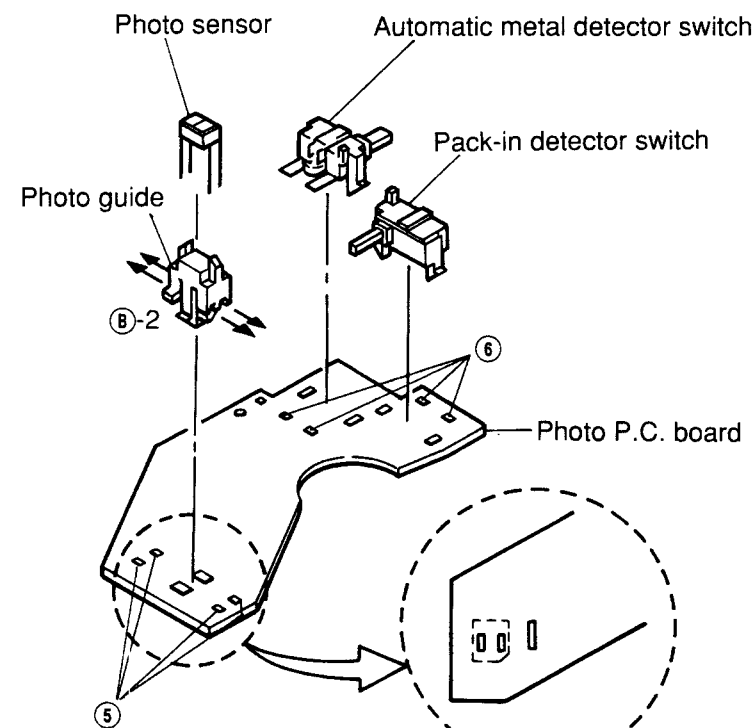

Figure 7
- (1) Remove four solders ⑤ as shown in Figure 7.
- (2) Remove the photo guide together with the photo sensor from the photo P.C. board as shown in Figure 7.
- (3) Insert the new photo sensor into the photo guide, and bend the legs of the photo sensor in the direction marked ⑧-2 as shown in Figure 7.
- (4) Insert the photo guide into the P.C. board and solder the legs so that the photo sensor is set as indicated by [] in Figure 7.
- (1) Remove 4 solders ⑥ with which the switch is fixed as shown in Figure 7.